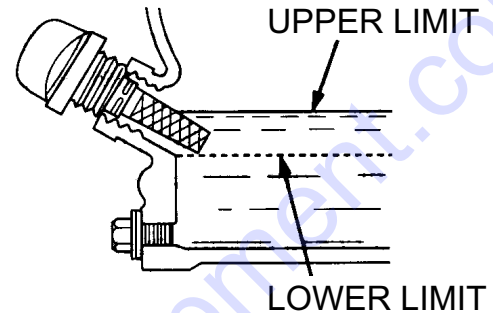

Figure 6. Oil Level
4. If the oil level is low (Figure 6), fill to the edge of the oil filler hole with the recommended oil type (Table 5).